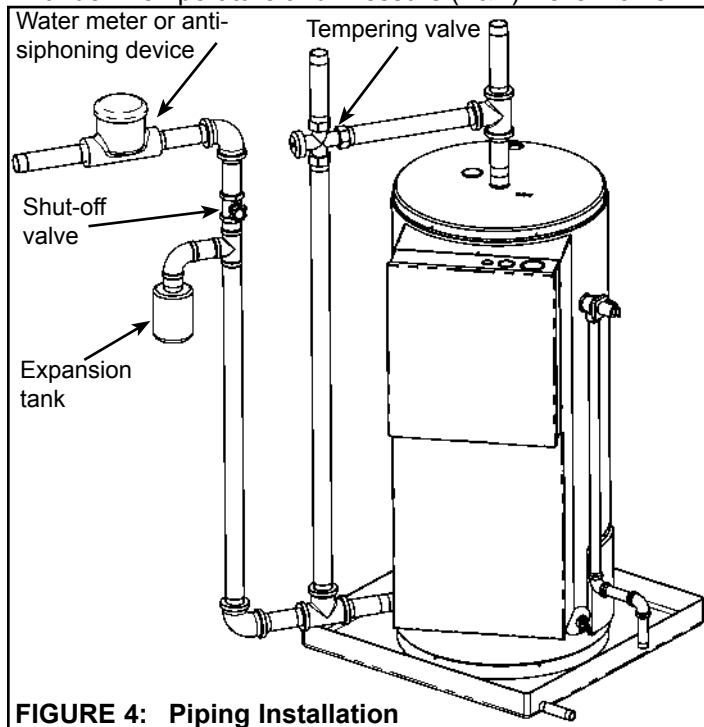

FIGURE 4: Piping Installation
Piping, fittings, and valves should be installed according to the installation drawing (Figure 4). If the indoor installation area is subject to freezing temperatures, the water piping must be protected by insulation. Water supply pressure should not exceed 80% of the working pressure stated on the water heater's data plate. If the supply pressure is higher than this limit, a pressure limiting valve with a bypass must be installed in the cold water inlet line. This should be placed on the supply to the entire building in order to maintain equal hot and cold water pressures.
1. Install the water piping and fittings as shown in Figure 4. Connect the cold water supply (1 1/2 in. NPT) to the fitting marked "Cold Water Inlet". Connect the hot water supply (1 1/2 in. NPT) to the fitting marked "Hot Water Outlet".
3. The manufacturer of this water heater recommends installing a tempering valve in the domestic hot water line as shown in Figure 4. These valves reduce the point-of-use temperature of the water by mixing cold and hot water and are readily available for use. Contact a licensed plumber or the local plumbing supplier.